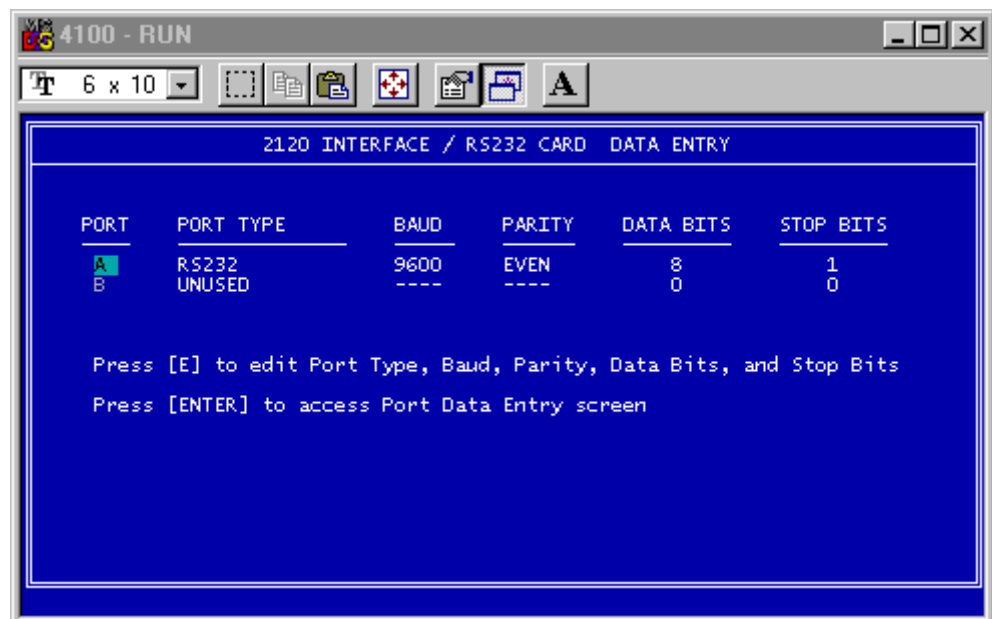

Figure 12. Communication Settings
- Press E to edit the communication settings (see Figure 12).
- Configure Port A as shown in Figure 12 (9600 Baud, Even Parity, 8 Data Bits, and 1 Stop Bit). (Since Port B is not supported, you need to leave it unused.)